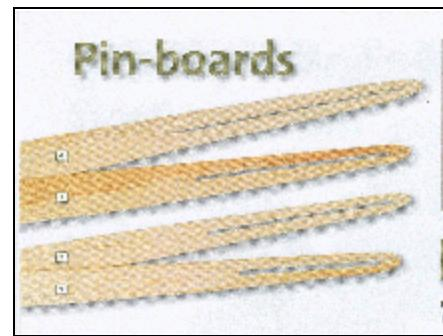

Figure 8: Pin-Boards
- **Boards and Pinning Machines:** After final drumming the pelts are stretched onto Pin Boards in preparation for the drying process. A Pinning Machine is used to help stretch the pelt and staple it to the Board. An illustration of a type of Board and Pinning Machines is provided in Figures 8 and 9.